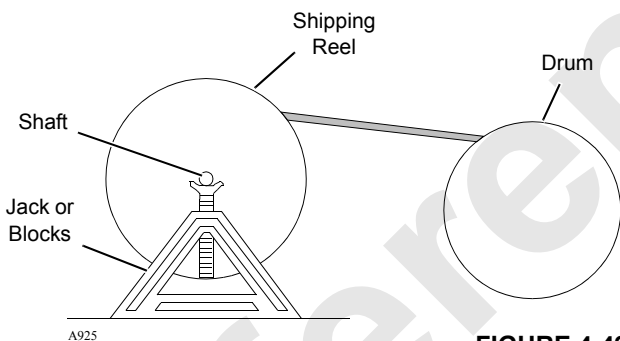

FIGURE 4-49
1. Mount wire rope shipping reel on a shaft supported at both ends by jacks or blocks as shown in Figure 4-49.